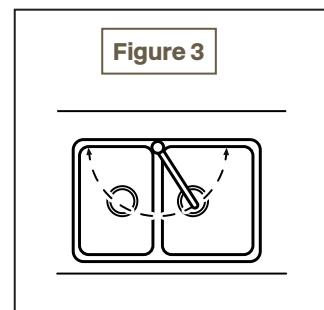

Figure 3A, Changing the swing radius
Remove the outlet pipe (1) by loosening the locking screw (2) using an Allen key and pulling the spout out of the spout fastening (3). The locking pin (4) is fitted in the spout fastening according to the option in figure 3A to give the required swing radius. The locking pins are inserted and removed using an Allen key (5).